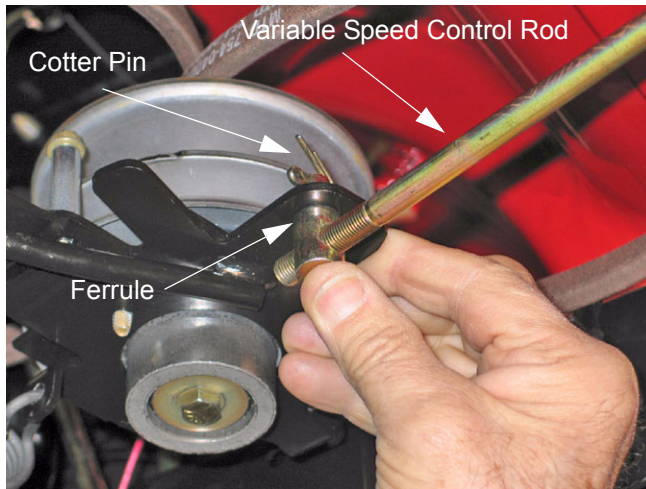

Figure 40
- 10.2. Remove the cotter pin securing the variable speed control rod to the variable speed idler bracket. Remove the ferrule from the bracket and let the rod hang down out of the way. See Figure 40.